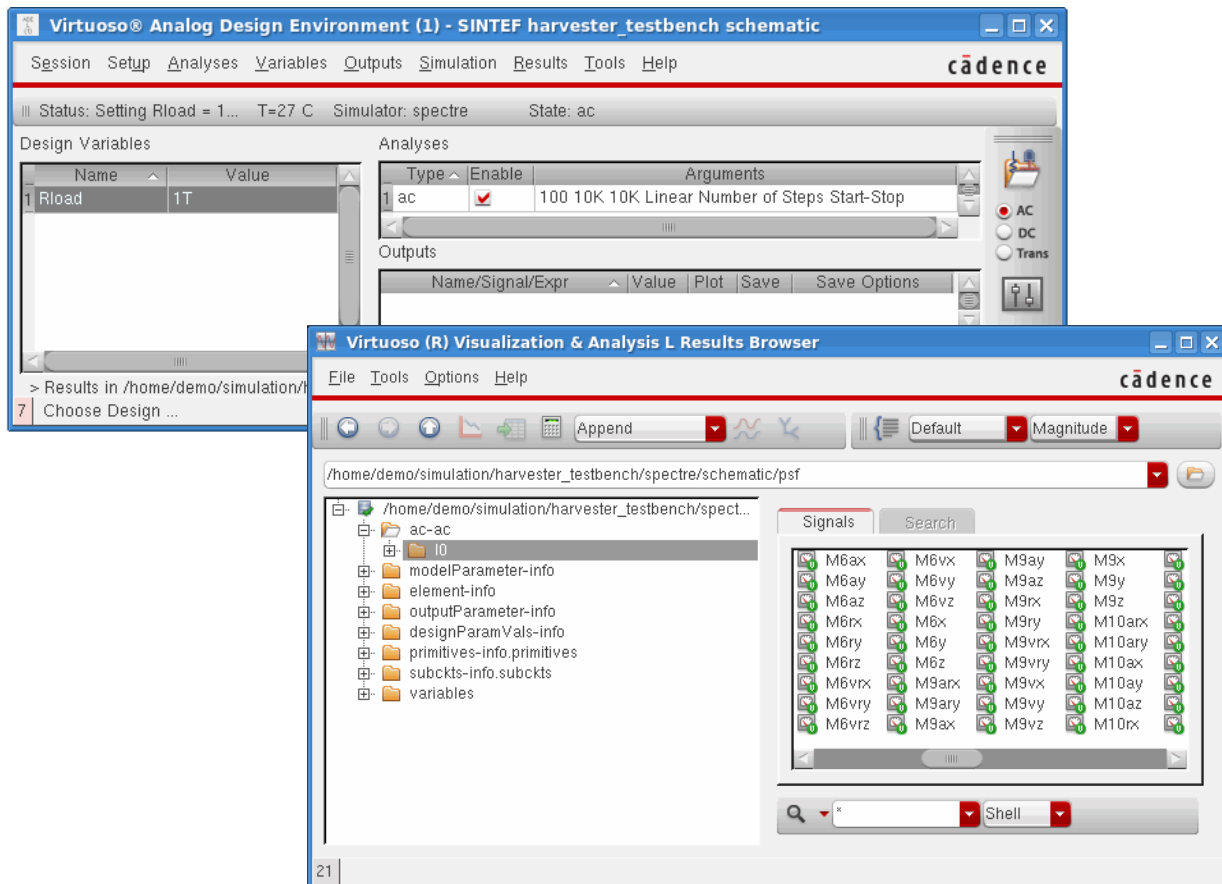

Figure 2.17 AC analysis
1. Set an AC analysis from 100 to 10k with 10k number of steps in a linear mode.	Check you get the same line as in Figure 2.17 .
5. Start the simulation and check results are the one in Figure 2.17 .
6. Browse results once the analysis is done to find signals inside a component. In this case open ac-ac and open instance I0 (MEMS reference in virtuoso)	<p>a. Go in Tools > Results Browser and double click ac_ac then I0</p> <p>① Note the instance number I0 and the connector number M6 may be different in your case.</p>